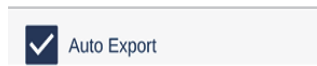

Figure 2-39 Auto Export check-box
1. Select the **Auto Export** check-box to automatically export an Excel (.csv) results file to the selected destination after each test is complete (see Figure 2-39 on page 53).